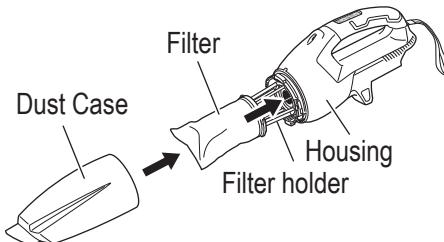

Fig. 13
1. Verify the filter (Fig. 13)